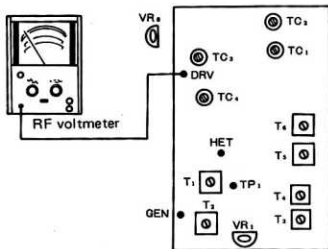
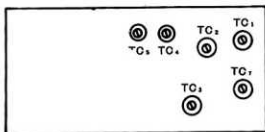

Fig. 23
Fig. 24
Have the RF voltmeter connected as shown in Fig. 23. Adjust T1, T2, T3, T4, T5, T6, TC1, TC2, TC3 and TC4 are here tentative; these are to be adjusted finally when adjusting the FINAL unit.
3) Adjust TC1, TC2, TC3, TC4, TC5 and TC7, shown in Fig. 24, and also TC3 and TC4, shown in Fig. 23, to obtain the largest possible output. (Repeat the foregoing sequence several times, each time adjusting the FINAL control to maximize the output.)